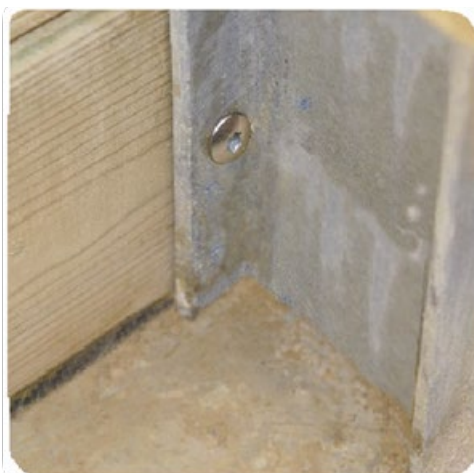

Figure 11 – Fastening the slats to the supporting braces
- fix them to the 8 supporting braces (these are pre-drilled as shown in *Figure 11*) using 72 torx safety screws 6 × 30 A2 SS (bag D).